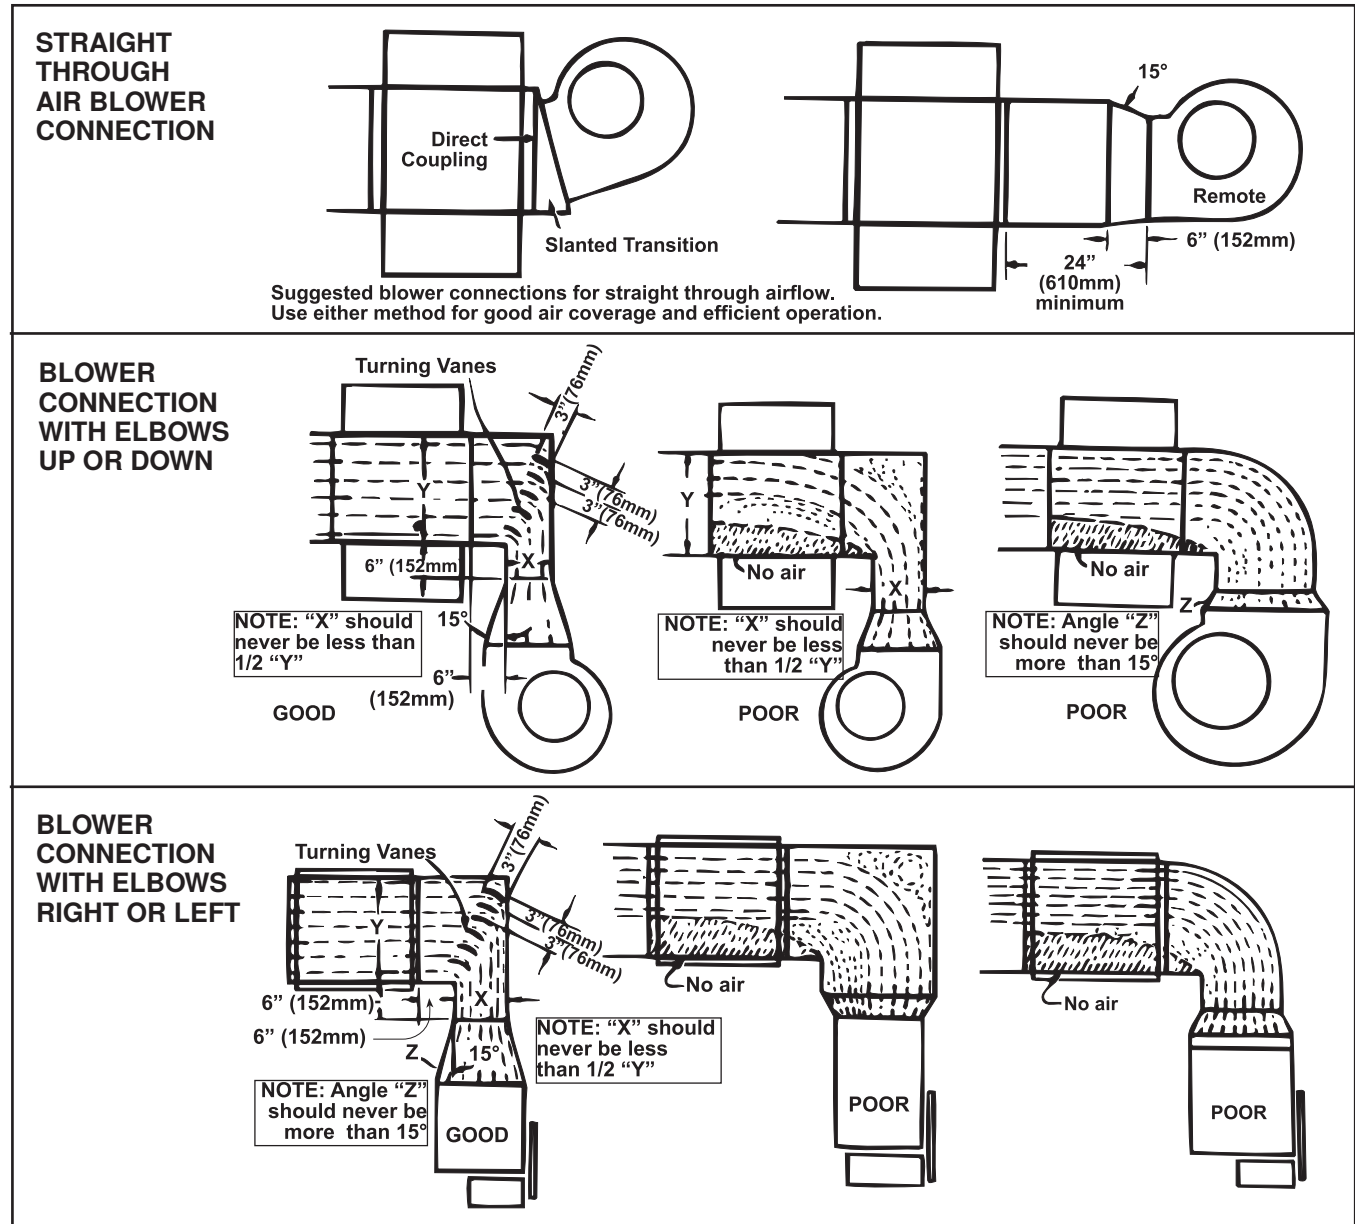

Figure 13. Duct Furnace Blower Connections
- Proper arrangements of blower and duct furnace with respect to angle of approach of the duct connection and the arrangement of the discharge opening of the blower are shown in Figure 13.